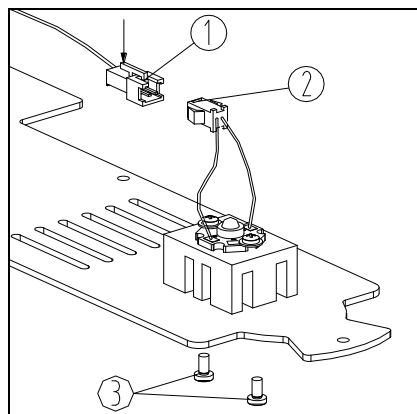

Fig.5
Screw out the lock screw on the bottom group and take out the bottom group. Press on snaps on the connector socket (1) (connected with LED control panel) according to the direction of the arrow as shown in the figure, pull out the connector (2) (connected with LED). Then screw out the two screws (3) that fixed the LED, replace with a new LED group. Fix the LED group by the two screws, plug the connector (2) into connector socket (1), assemble the bottom group to original place (See Fig.5).